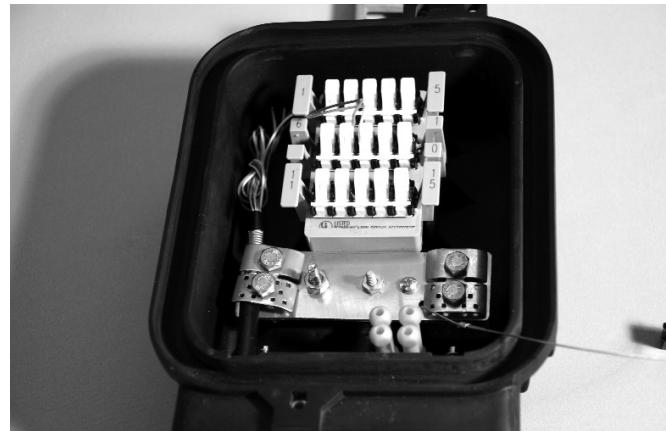

Figure 11
- Route the conductors to the side of the Dat@Term terminal block. (Figure 11)